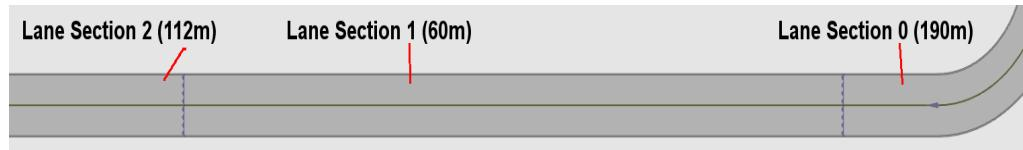

Figure 3.19: Lane Section 0: From Start 0 m to 190 m
- Select the *Lane*  - tool from the *Road* section and click the existing lane from the previously created "Lane Section 1" (see Figure 3.19).